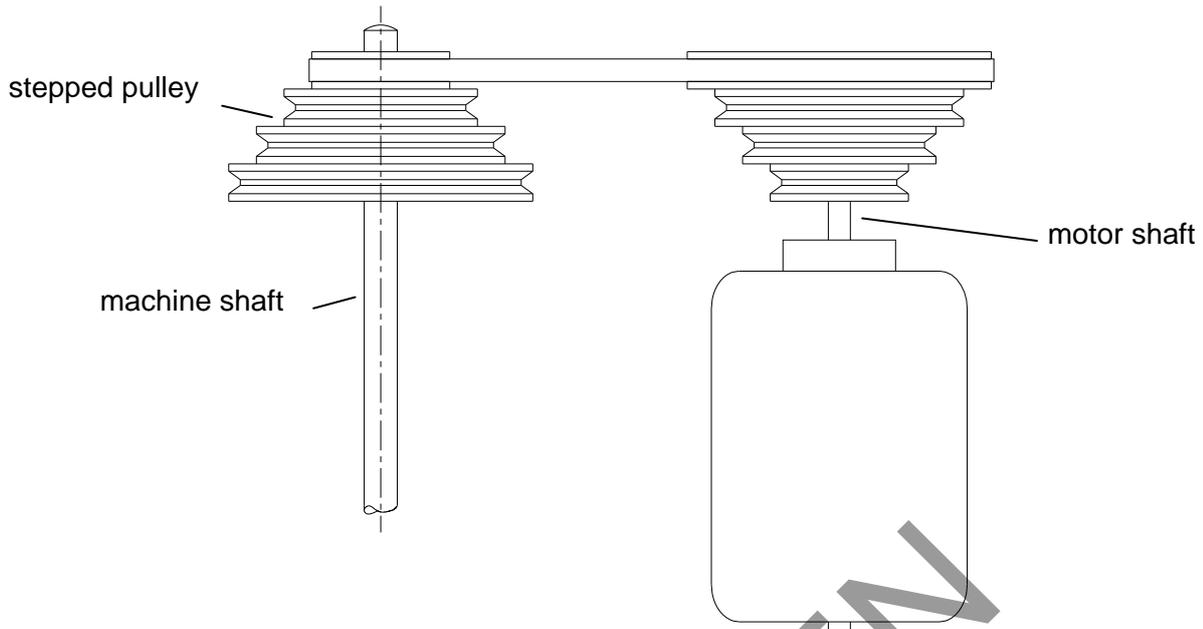

Fig. 6
(b) Fig. 6 shows drive system C being used to take the drive from a motor to a machine shaft.
- (ii) Use notes and sketches to show how the stepped pulley in Fig. 6 could be fixed to the machine shaft.